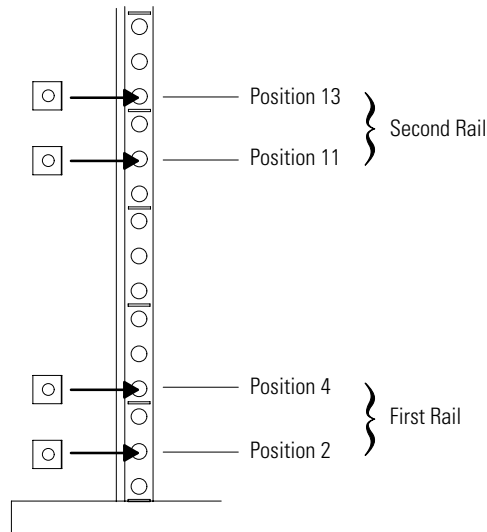
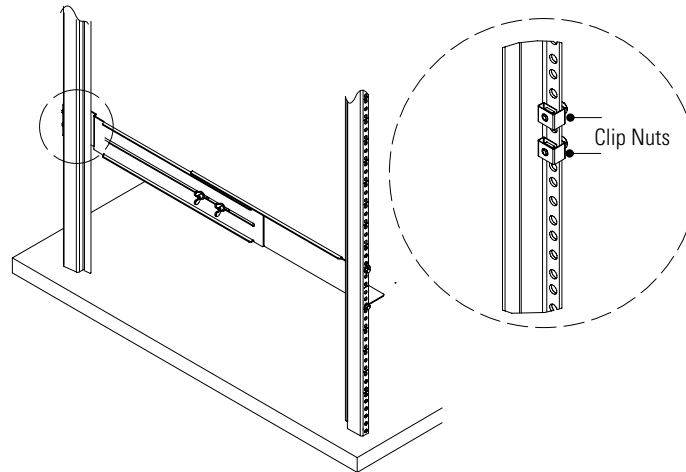

Figure 12. Rear Rail Screw Positions for the EBM
Figure 13. Securing the Rear Rail
4. Using two clip nuts and two hex-head screws, attach the rail to the rear of the rack (see Figure 12 and Figure 13).